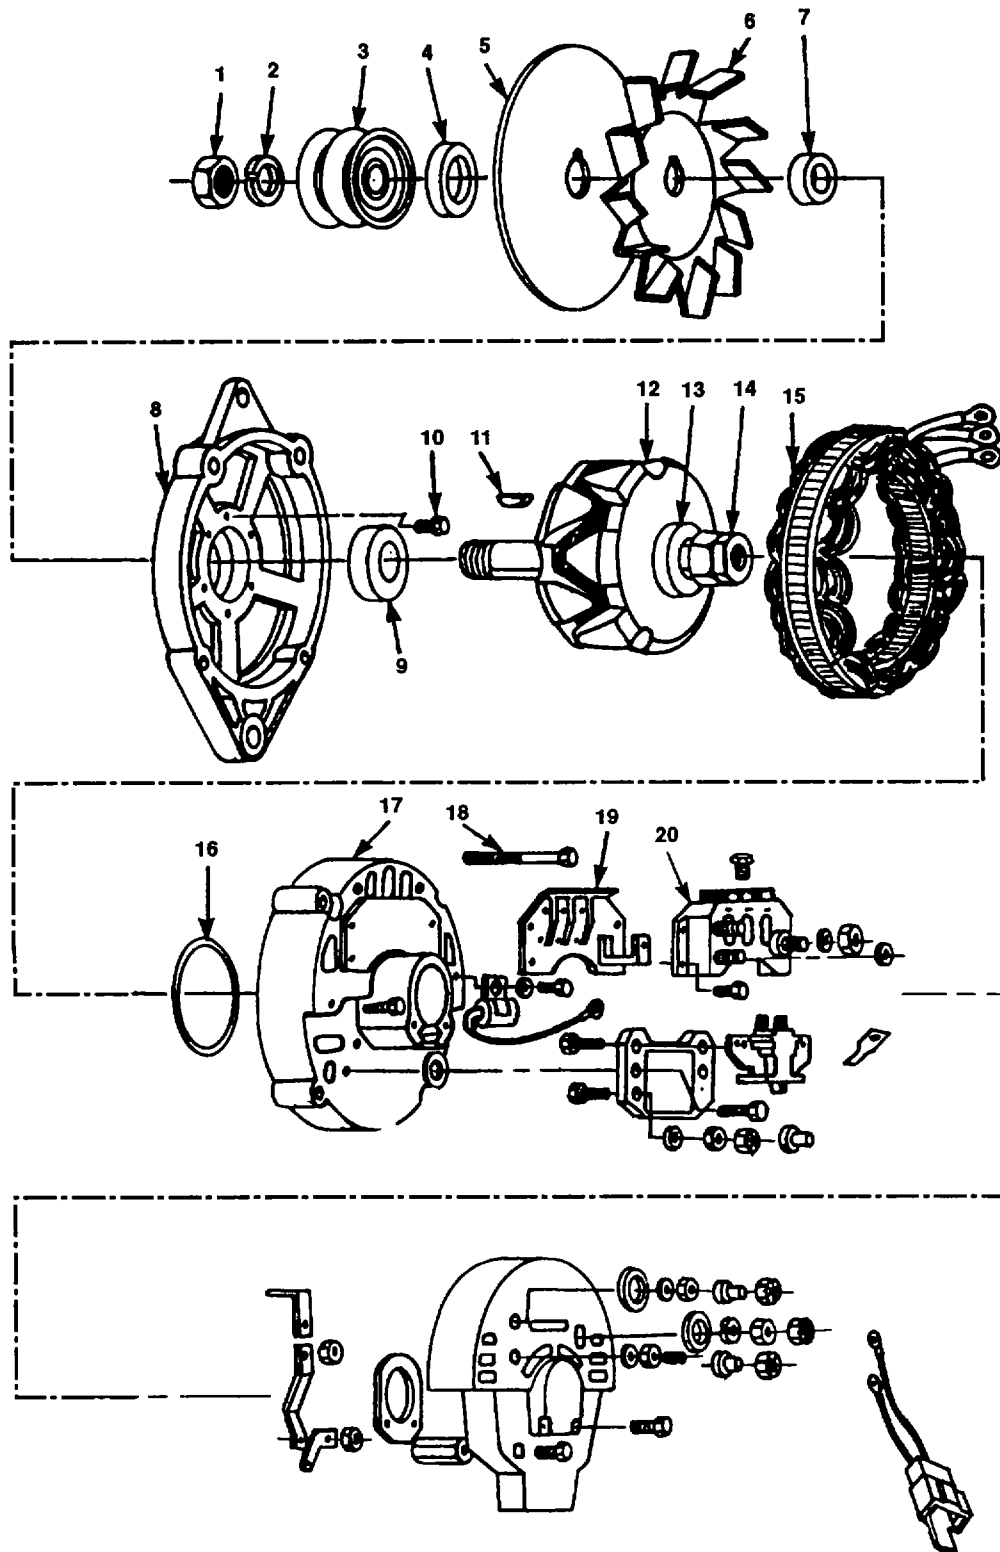

Figure 4-64. Alternator
- a. Clamp pulley (3) in a vise using an old oversize V-belt to prevent damage to the metal edges.
- b. Remove pulley mounting nut (1) from shaft and split lock washer (2). Remove pulley and spacer (4) from alternator (figure 4-64).
- c. Using diagonal pliers, remove Woodruff key (11), then remove fan baffle (5), fan (6), and fan spacer (7).
- f. Disassemble stator. Using a wooden wedge and a screwdriver, remove four thru-bolts (18). Pry the front and rear housings apart so that stator (15) and rear housing (17) remain as an assembly and the rotor (12) and front housing (8) are another assembly.